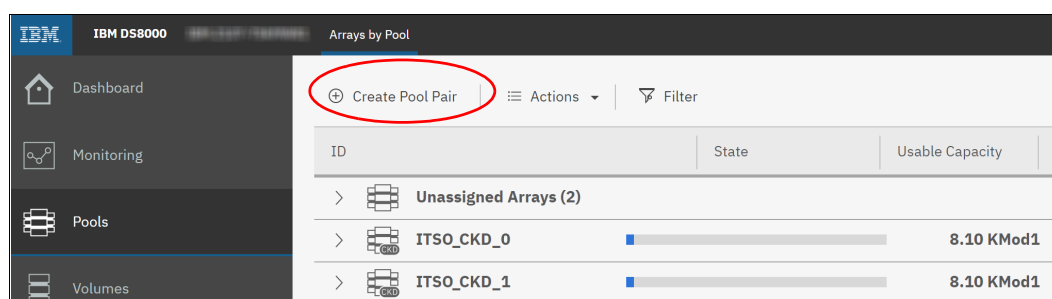

Figure 9-37 Create Pool Pair window
2. Click the **Create Pool Pair** tab, as shown in Figure 9-37. The Create Pool Pair window opens.